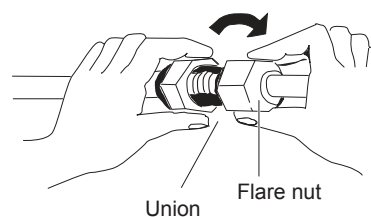

Fig. 2-5-5
- (3) For proper connection, align the union tube and flare tube straight with each other, then screw in the flare nut lightly at first to obtain a smooth match. (Fig. 2-5-5)